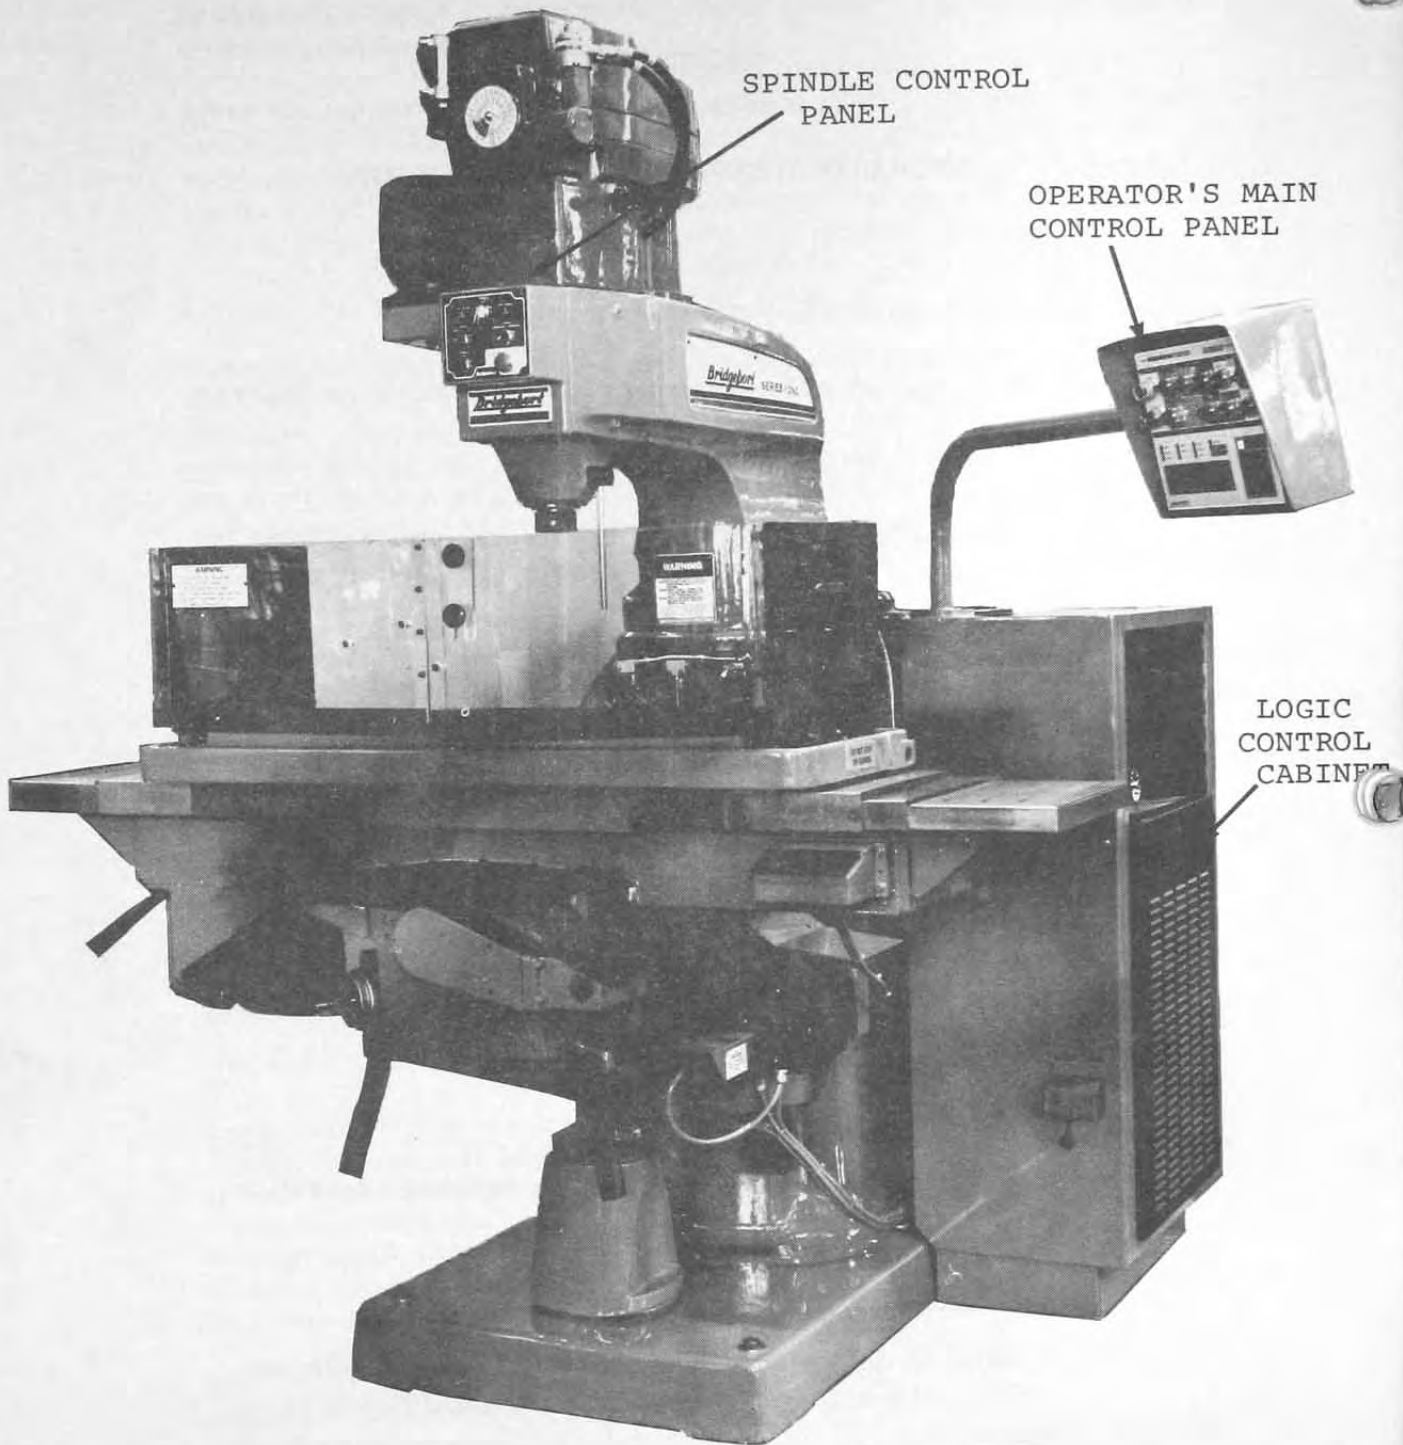

Figure 2-1. Machine Control Equipment
2.1 MACHINE CONTROL EQUIPMENT (Figure 2-1)